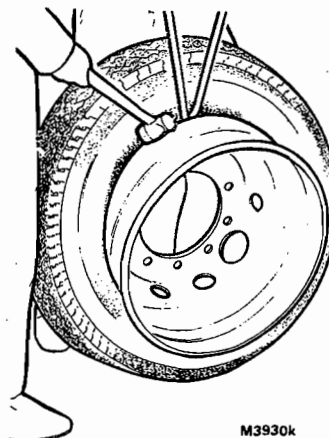

FIG. 4. REMOVING SECOND BEAD
5. Stand the assembly in an upright position and insert the levers between the rim and second bead, Fig. 4. Using a liberal amount of lubricant around the rim and bead, ease off the second bead with a regular rocking motion. If the bead is tight removal may be assisted by hammer blows applied with care to the tyre bead.